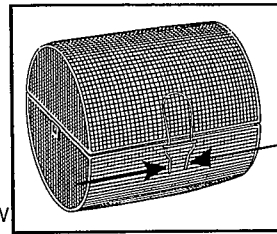

Figure 5
4. Grasp the wire handle on the Roasted Veggies/Air Bake Basket Door. Squeeze the wires and pull the door open. See Figure 5.